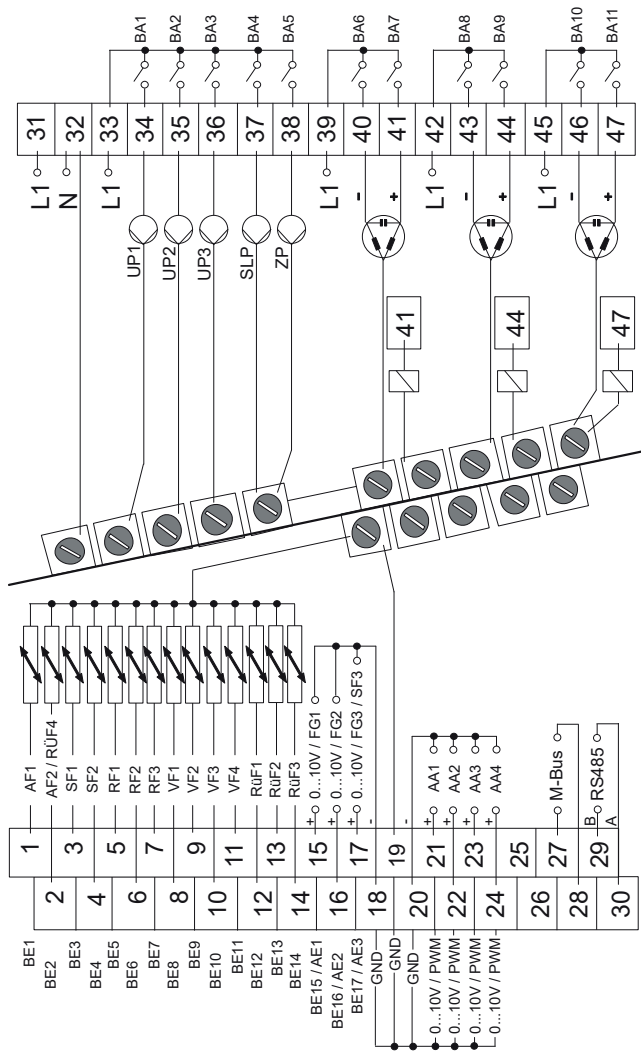

Fig. 5-2: Wiring of the TROVIS 5578-1113 Heating and District Heating Controller
- ➔ Connect the wiring as shown in Fig. 5-2 (TROVIS 5578-1113) or Fig. 5-3 (TROVIS 5578-1114).
Legend for Fig. 5-2: